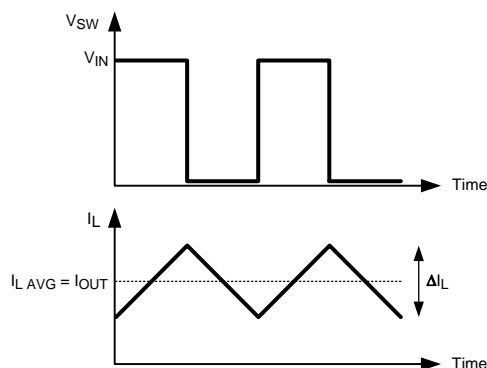

Figure 32. Switch and Inductor Current Waveforms
The inductor (L) used in the application will influence the ripple current and the efficiency of the system. The first selection criteria is to define a ripple current,  $\Delta I_L$ . In a buck converter, it is typically selected to run between 20% to 30% of the maximum output current. Figure 32 shows the ripple current in a standard buck converter operating in continuous conduction mode. Larger ripple current will result in a smaller inductance value, which will lead to lower inductor series resistance, and improved efficiency. However, larger ripple current will also cause the device to operate in discontinuous conduction mode at a higher average output current.